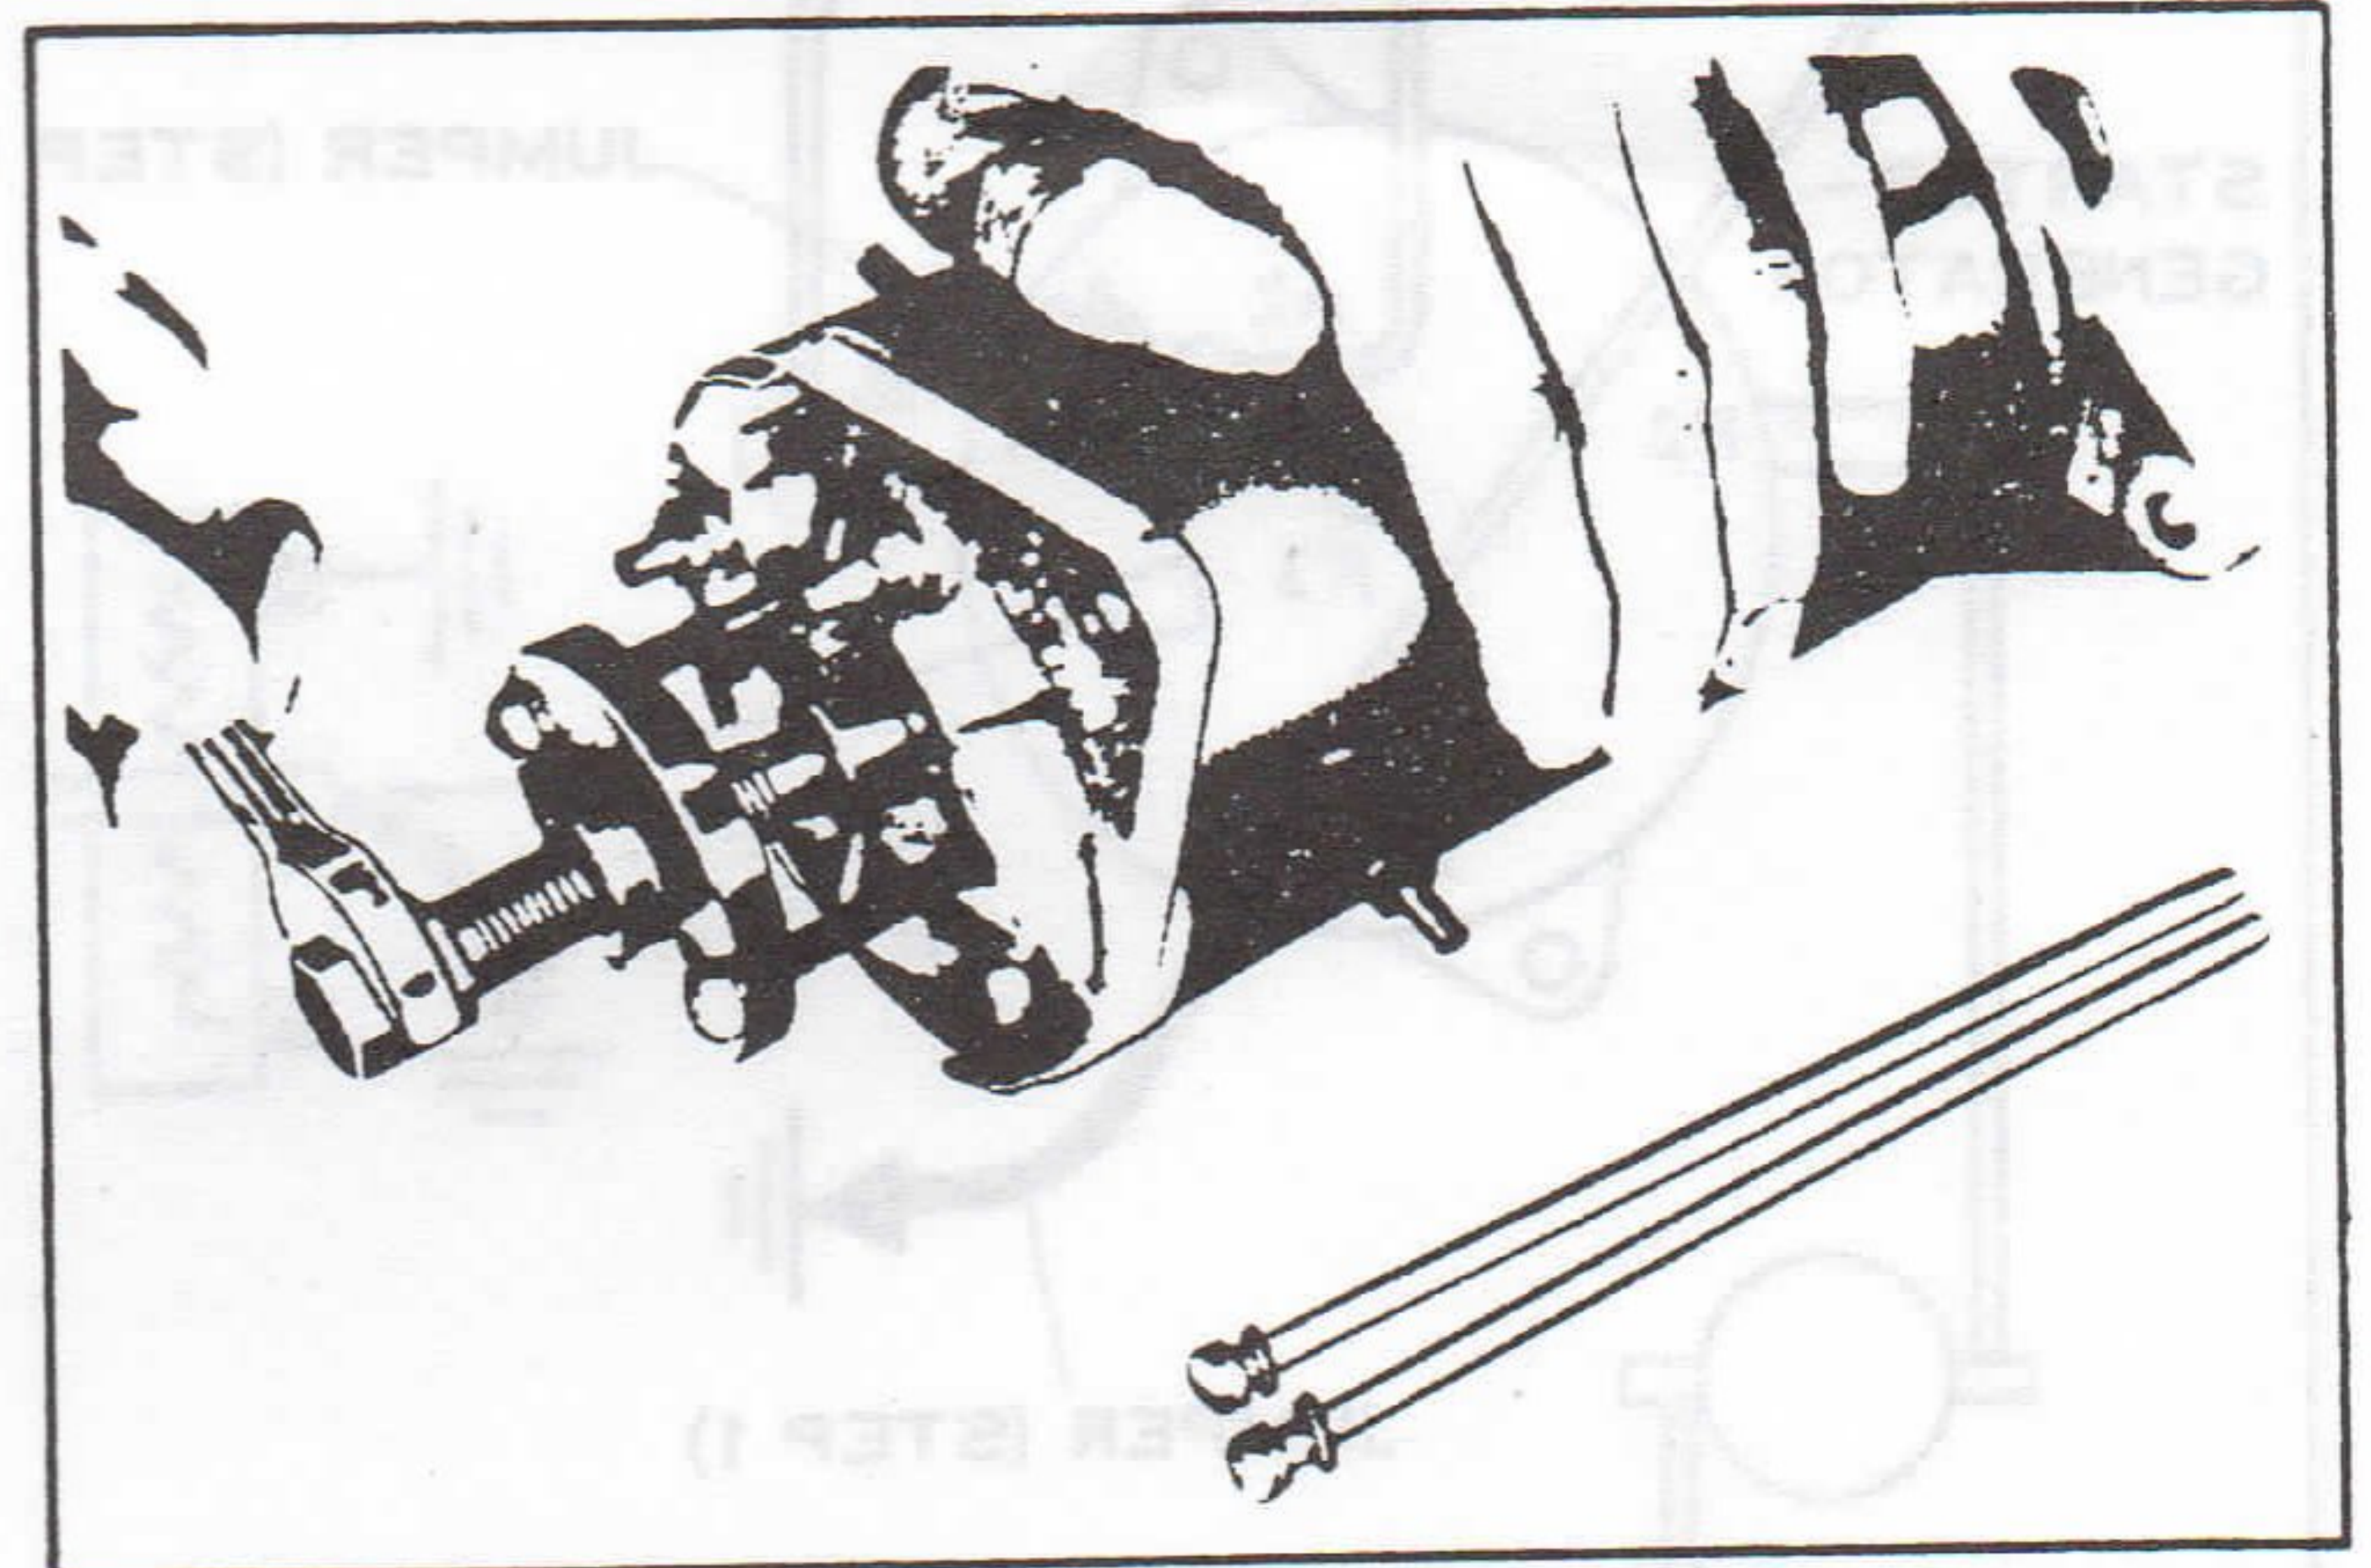

Figure 5E-27J. Removing SIBA Starter-Generator Commutator End Cover
Remove mounting bolt from support arm or spring tensioner, remove V-belt, remove lower mounting bolt or bolts to free starter-generator (See Figure 5E-27F or 5E-27Fa).
DISASSEMBLING STARTER-GENERATOR (Fig. 5E-27G SIBA, 5E-27H BOSCH AND 5E-27I HITACHI)
Remove thru bolts (1) and use tool part No. 97294-61B to pull end cover (2) as shown in Figure 5E-27J. Two 1/4-20 x 1-3/4 in. long Part No. 2797B attaching screws are inserted through the puller flange slots and thread into two tapped holes in the commutator end cover.